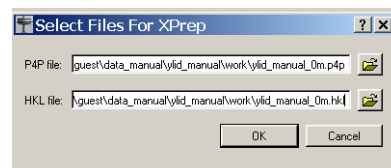

Figure 8.1 - Select files for XPREP input
2. Check that the two files in the pop-up window are correct (see Figure 8.1) and click OK.